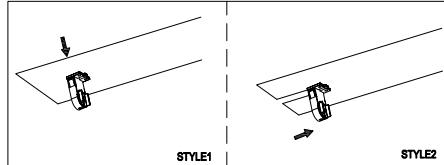

Figure 4
**STEP 4:** Install emergency lamp holder. See Figure 4.